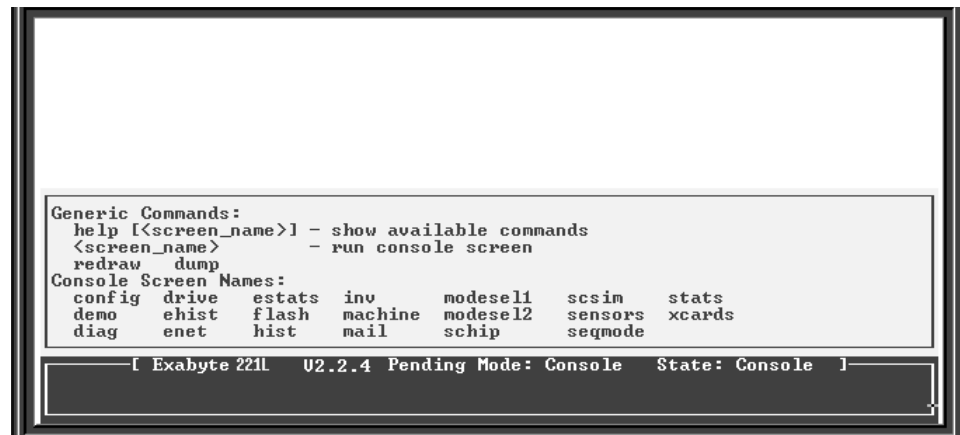

Figure 7-6 Console Help screen
7. If desired, type `help` and then press Enter to display Console's Help screen, as shown in Figure 7-6.